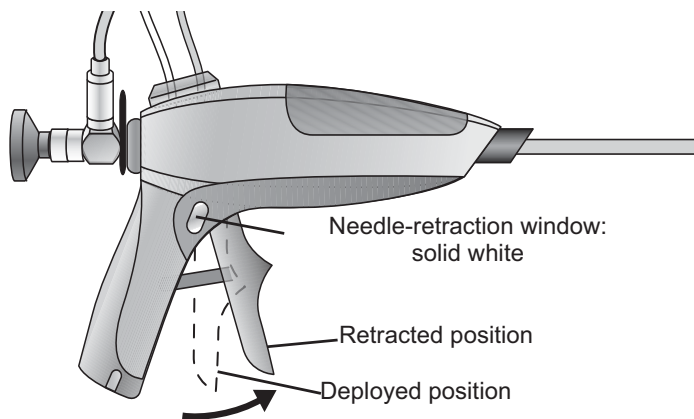
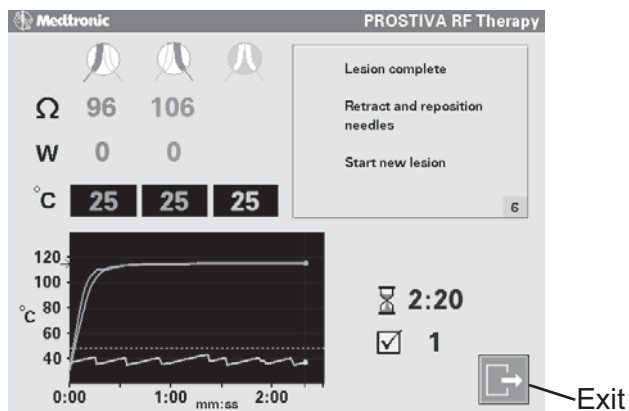

Figure 4-13. Fully Retract the Trigger Mechanism.
Figure 4-14. Confirm “Lesion Complete” on Therapy Screen Display.
13. When the lesion treatment is complete, confirm that the “Lesion Complete” message appears on the screen display (Figure 4-14), and fully retract the hand piece trigger mechanism (Figure 4-13).
16. Press the “Exit” icon button (Figure 4-14) to access the “New Patient” window on the screen display (Figure 4-15).